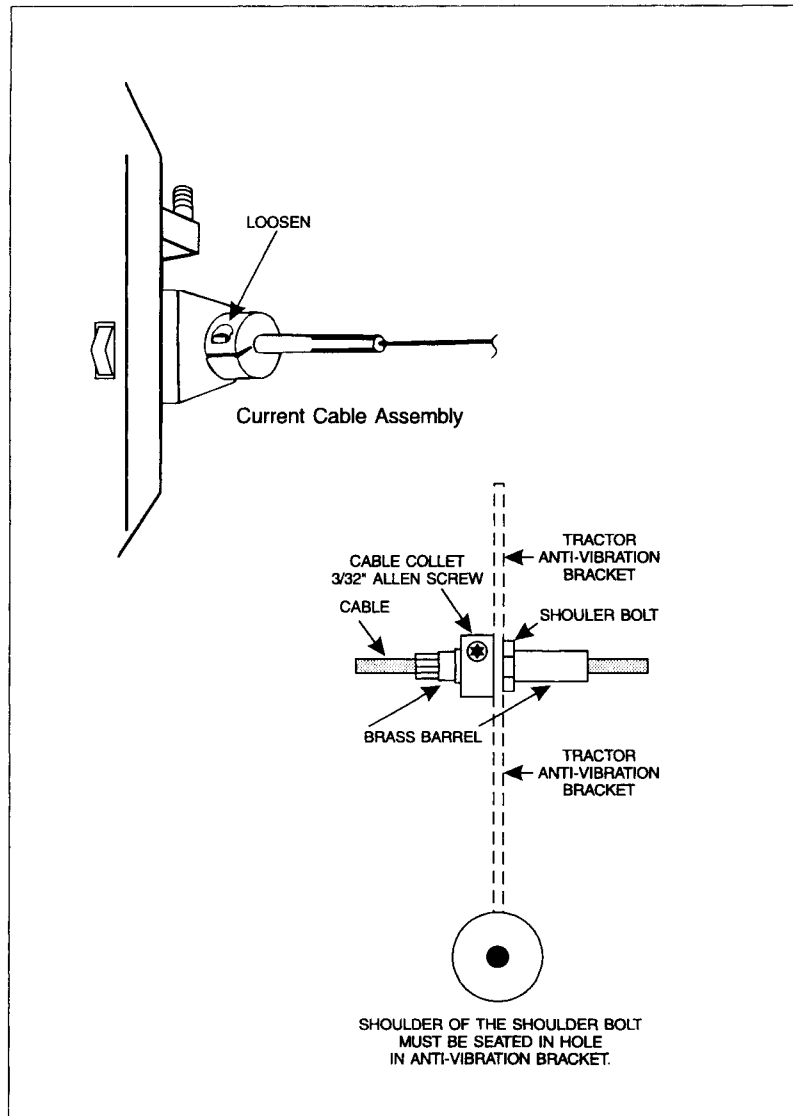

Figure 6-31. Releasing the Tractors from the Cables
- l. Use a 3/32" driver to loosen the screws in the split collars which secure the tractors to the cables (see Figure 6-31). Turn the collars counterclockwise to remove them from the threaded yokes. (HINT: use a needlenose pliers to hold the back side of the threaded yoke while turning the split collars. Split collars can be loosened by prying the collar slightly open using a small, flat blade screwdriver.)
Ensure the split nut and split collar assemblies are fully seated against the tractor Anti-Vibration Bracket. There is a slight lip on the split nut that may seat against the AVB; this is not correct. When you view the cable/AVB, there should be no space between the split nut/split collar/AVB. (See Figure 6-31).